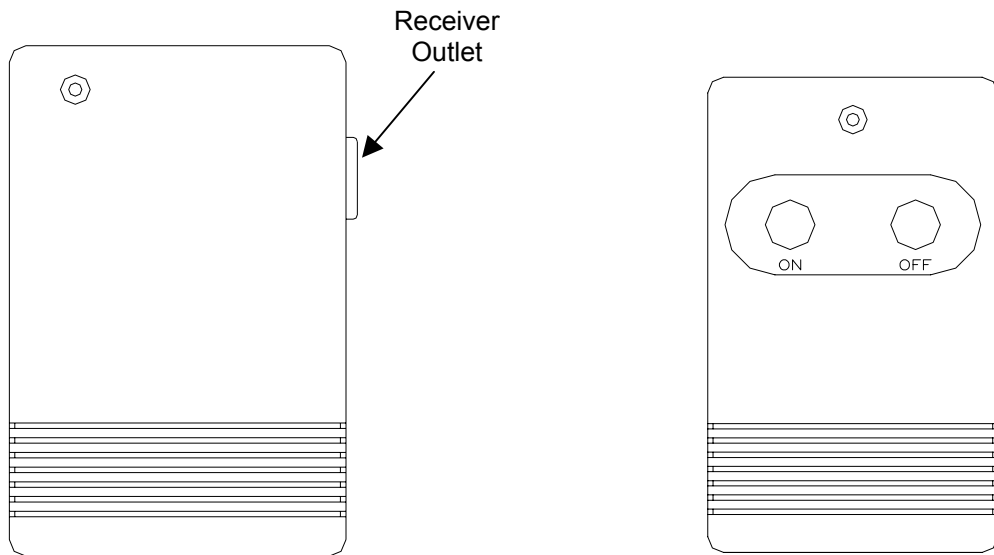

FIGURE 2
1. Plug fireplace cordset into the outlet located on the side of the receiver. (FIGURE 2)